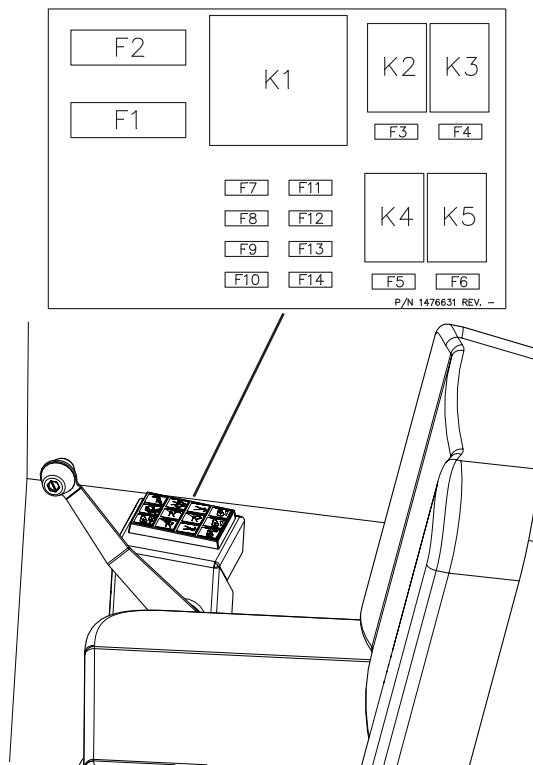

Figure 22
2. Reinstall the cab chute control fuse (Figure 22).